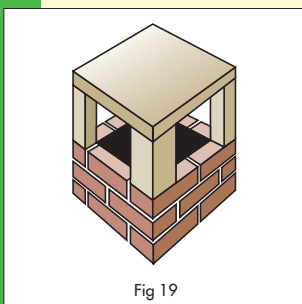

Fig 19
**REMEDY** If it is impossible to raise the chimney terminal out of the turbulent zone then the simplest remedy is to protect the top of the chimney with a cowl see Fig. 17 or dove-cote top see Fig. 19.